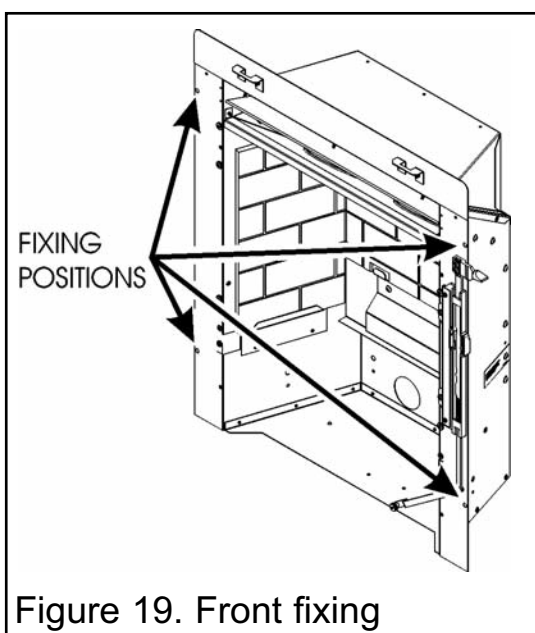

Figure 19. Front fixing
3. Mark the fireplace front surround through the four fixing holes in the side flanges of the convection box (See figure 19).